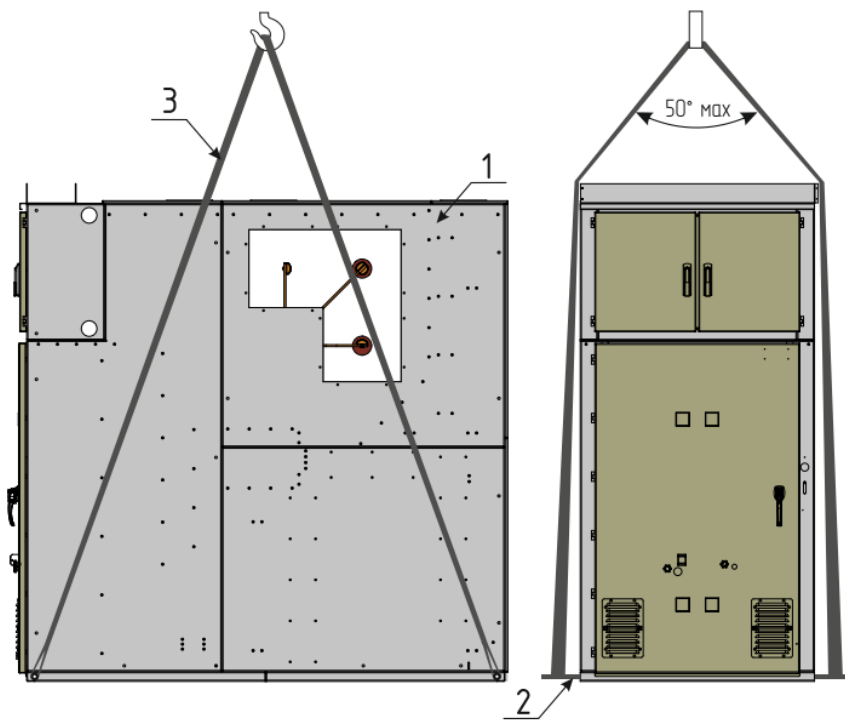

Fig.6.1. Lifting panel
To lift and handle the panel (refer to Fig.6.1, item 1), proceed as follows:
- Use two transportation rods (refer to Fig.6.1, item 2) included in the shipment.
- Use the crane and round slings (refer to Fig.6.1, item 3). The minimum length of slings must be 10 m.